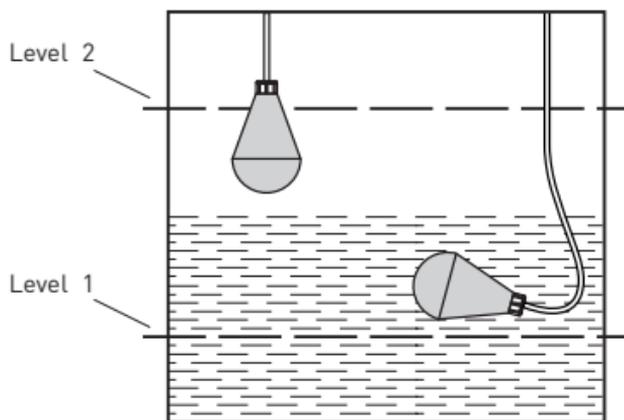

Fig. 4 – Controlling two levels of liquid using two RL-1 float switches
**Recommendation:** When using float switches to control multiple levels of liquid in a tank, we recommend using a separate RL-1 float switch per each controlled level (see Fig. 4).